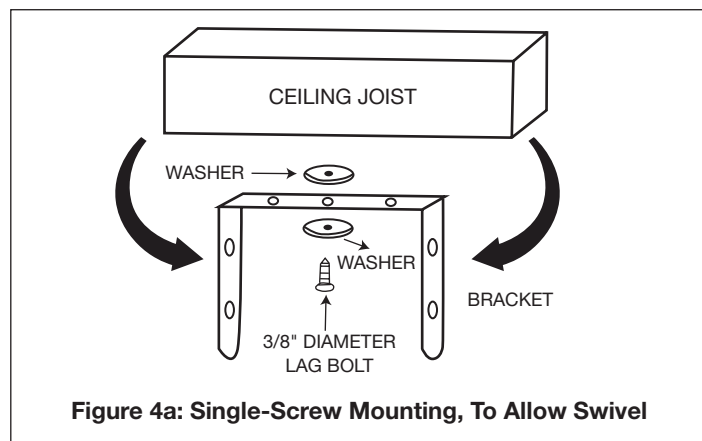

Figure 4a: Single-Screw Mounting, To Allow Swivel
Refer to **Figures 4a and 4b**.
3. Place the screws and washers as shown in the **Figures 4a or 4b**.
Fig. 4a: For Single-Screw Mounting (center bracket hole only). (If you want to swivel the heater, a longer Lag bolt may be required to properly secure the heater, not included.)
1. **Swivel the unit-** If mounted on a single center lag bolt **Figure 4a**, turn the entire heater and bracket assembly left or right.